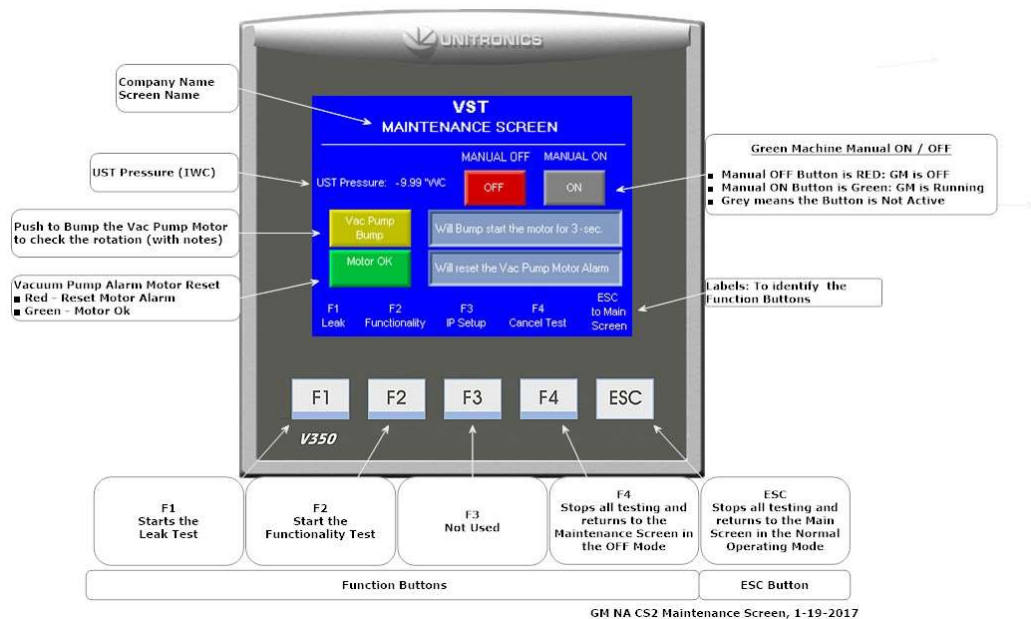

Figure 11-4: Maintenance Screen
- When the Maintenance Screen is shown, the GREEN MACHINE will always be in the OFF mode (unless the Manual ON button is pushed). **See Figure 11-4.**